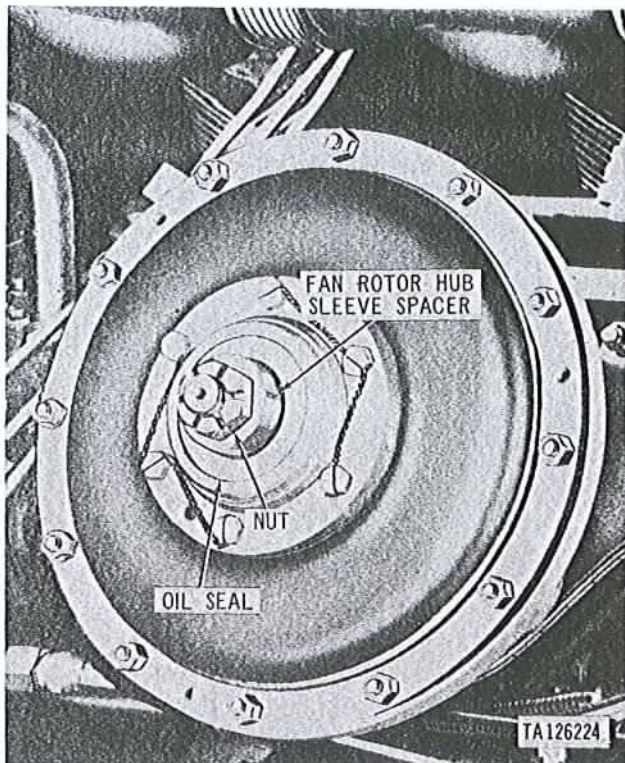

Figure 2-60. Fan drive housing fan rotor hub sleeve spacer installed for leakage test.
(19) Install a fan rotor hub sleeve spacer, part No. 10882651 (fig. 2-60), on each fan drive vertical drive shaft to prevent oil seepage at fan drive oil seals while operating engine. Secure the spacer to each drive shaft with the nut used to secure the cooling fan. Start engine and check for fuel leaks. If leaks are evident, loosen the tube fittings and re-tighten. Replace fuel injection tubes if leak persists. Remove sleeve spacers.